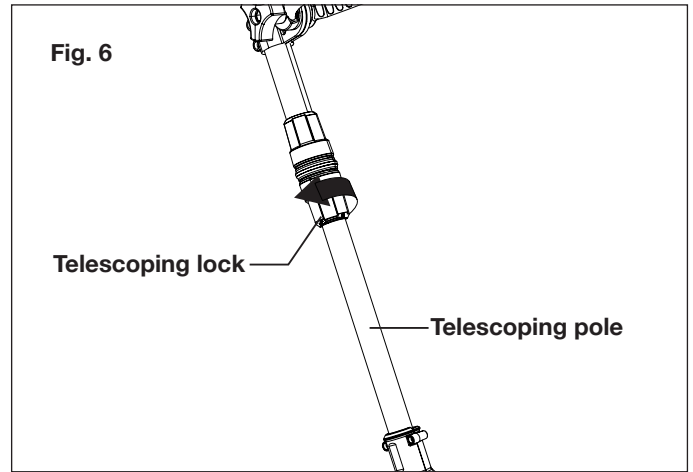

Fig. 6
1. Unlock the telescoping pole by turning the telescoping lock clockwise. Extend the pole to the desired length (Fig. 6).